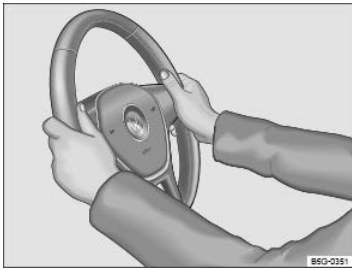

Fig. 78 Steering wheel: 9 o'clock and 3 o'clock positions.
- Adjust the steering wheel so that it can be held with hands at the 9 o'clock and 3 o'clock positions on the outside of the steering wheel rim and with the arms slightly bent at the elbow ⇒ Fig. 78.
- Always hold the steering wheel on the outside of the steering wheel rim with your hands at the 9 o'clock and 3 o'clock positions ⇒ Fig. 78 to help reduce the risk of serious personal injury if the driver's airbag inflates.